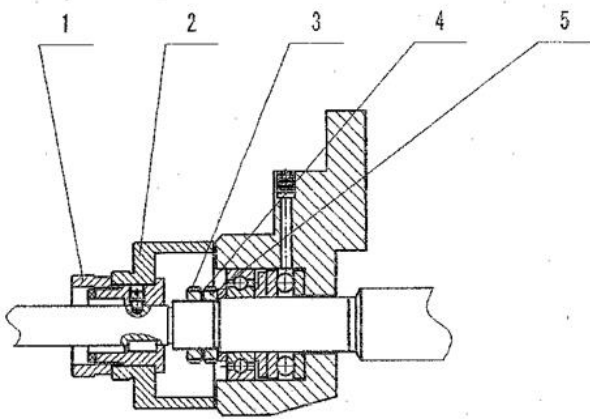

Fig 16
8.4 Adjustment of longitudinal lead screw axial backlash (see Fig.16)